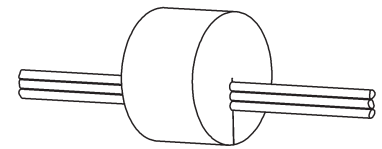

Fig. 5:
- **Conduit** – Included with the detector is a foam plug to seal the ½ inch (13mm) EMT. Place the wires into the plug as shown in Fig 5 and then insert the plug into the conduit sealing the conduit.